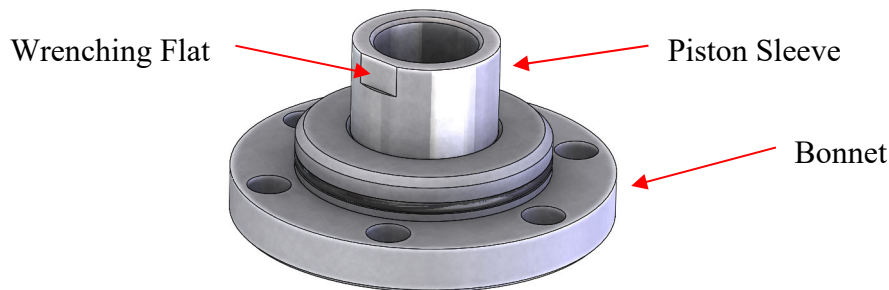

Figure 26: Piston Sleeve and Bonnet (Shown Upside-Down)
12. Using the flats on the piston sleeve, unscrew it carefully. Figure 26.